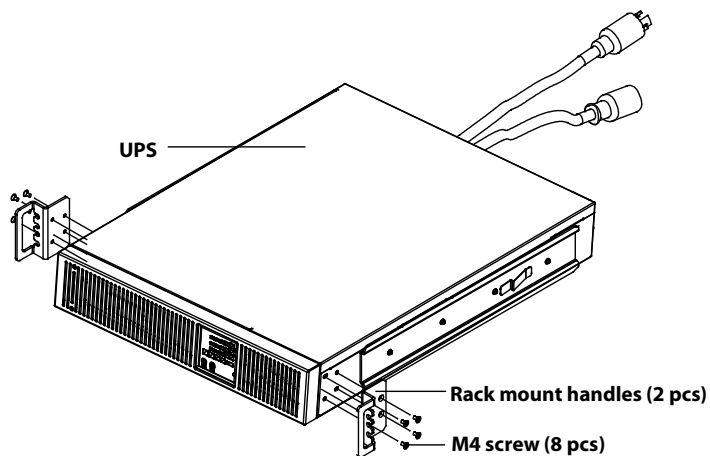

Figure 13: Installing rack mount handles
8. Use M4 screws to install ears on both sides of the UPS as shown in Figure 13.